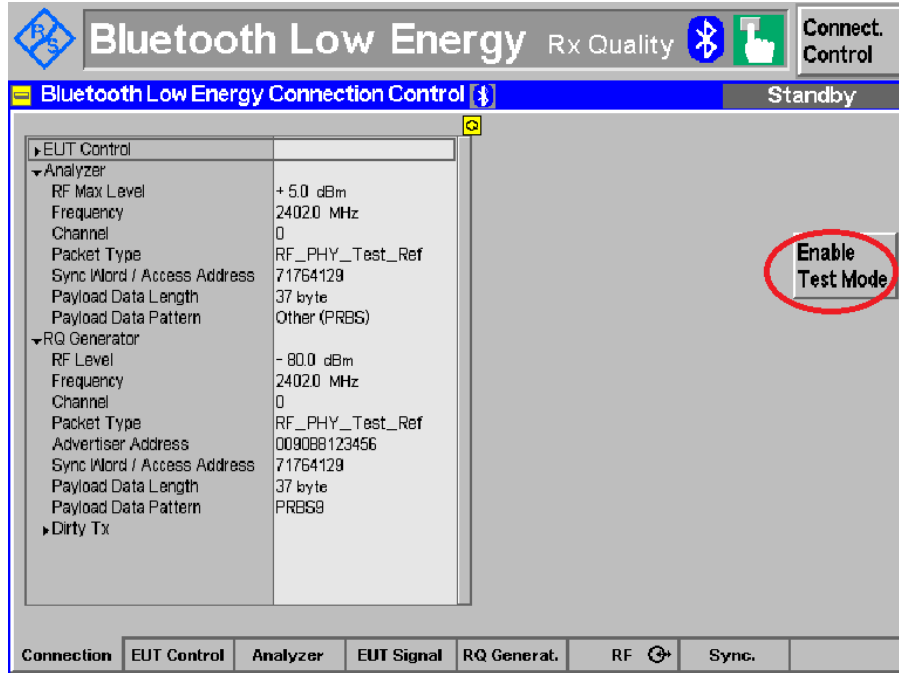

Figure 4. “Connect. Control” menu—test mode disabled
- Select “Enable Test Mode” if it is not enabled already (Figure 4). The CBT returns to the previous screen.
- Select “Enable Test Mode” if it is not enabled already (Figure 4).